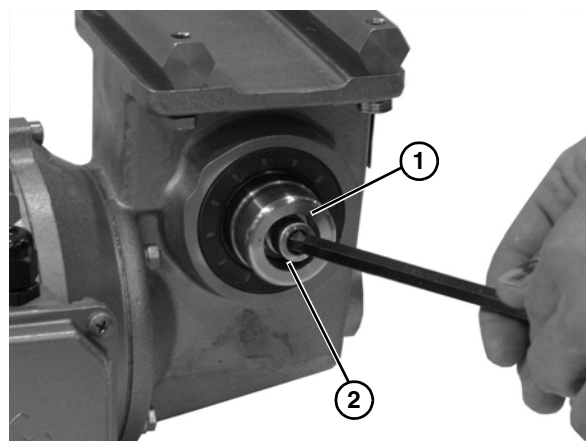

Figure 20
5. Attach the bore plug (**Figure 20, item 1**) and tighten the socket head screw (**Figure 20, item 2**). Snap cover onto bore plug (**Figure 20, item 1**).